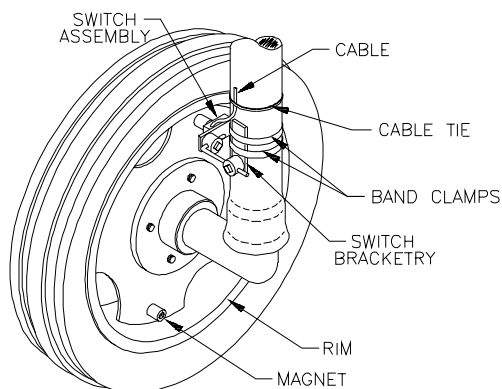

FIGURE 1
- 3) Mount the four magnets to inside of rim and tighten. (See Figures 1, 2, & 3). Magnets must be mounted in alternating red-black order.
- 4) Mount switch assembly to stationary column with the hardware provided. (See Figure 1). The switch assembly need not pivot with the wheel.
5) Position switch assembly so that as the wheel rotates the magnets pass across the center of the black, molded switch assembly. (See Figures 1 & 3).